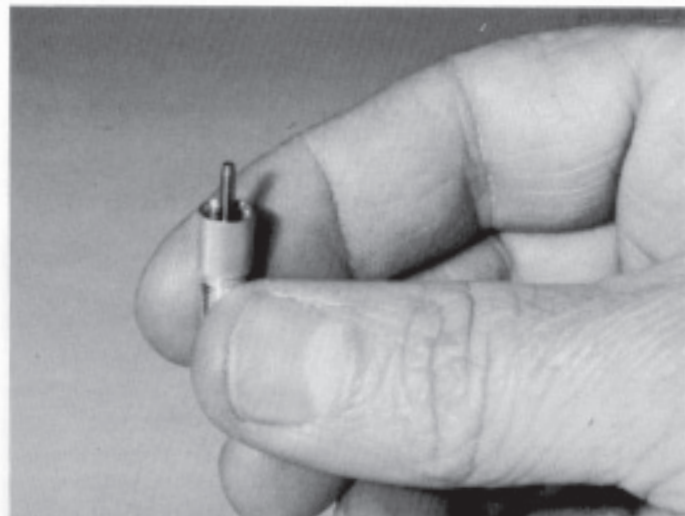

Fig. 44A
□ Figs. 44A, 44B & 45 Take the piston/shaft assembly and slowly push it down into the shock body. We are being careful not to create any air bubbles or lose any oil. Trim any flash off the end of the black plastic end cap. Now slip the spring and black plastic end cap onto the shock shaft. **BE CAREFUL HERE.** Screw the black plastic end cap assembly only two turns into the cylinder, **SLOWLY.**